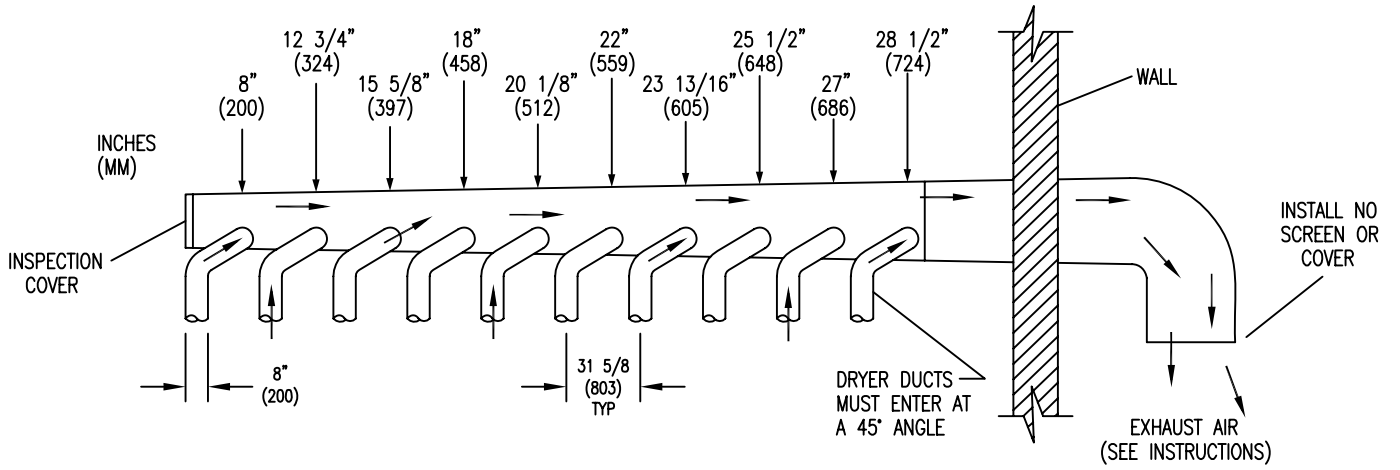

FIGURE 3- Dryer Exhausting Using A Main Discharge Duct.
6. **EXHAUST INSTALLATION.** (Refer to Figure 3 at the end of section 6.) Exhausting of the dryer(s) should be planned and constructed so that no air restrictions occur. Any restriction due to pipe size or type of installation can cause slow drying time, excessive heat, and lint in the room.
Installation of several dryers, where a main discharge duct is necessary, will need the following considerations for installation (see Figure 3). Individual 8" exhaust ducts from each dryer should enter main discharge duct at a 45 degree angle in the direction of discharge air flow.
NOTE: Never install the individual ducts at a right angle into the main discharge duct. The individual ducts from the dryers can enter at the sides or bottom of the main discharge duct. Figure 3 indicates the various round main duct diameters to use with the individual dryer ducts. The main duct can be rectangular or round, provided adequate air flow is maintained. The total exhausting (main discharge duct plus duct outlet from the dryer) should not exceed the equivalent of 14 ft. (4.25 m) and two elbows. The diameter of the main discharge duct at the last dryer must be maintained to exhaust end.